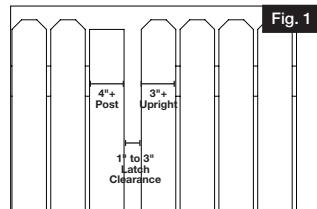

Fig. 1
- a. The Contemporary Post Latch with Handle requires a latch clearance of 1"-3" and works with a post size of 4"+ and upright size of 3"+ (Fig. 1).